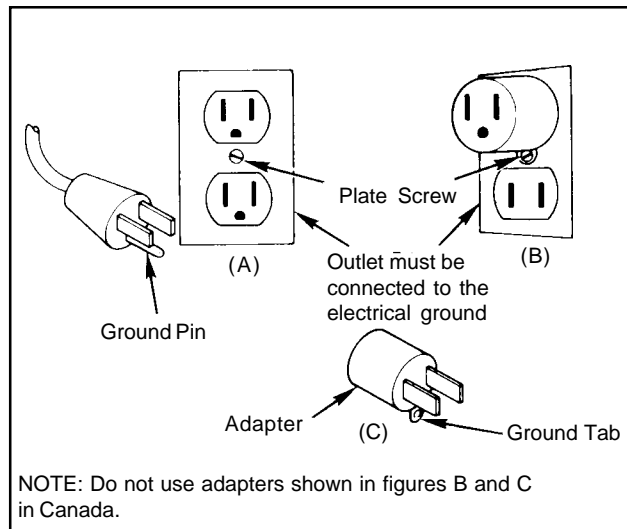

Figure 9
This machine uses a 110 to 120 volts AC 60 cycle electrical circuit. Make sure you have the correct frequency and voltage before connecting the power cord to an outlet. The machine has a plug as shown in Figure 9(A). If a receptacle connected to the electrical ground (A) is not available, use an adapter as shown in Figure 9(C). This adapter must be connected as shown in Figure 9(B) to an electrical ground in the electrical outlet. Make sure you use a plate screw and the ground tab to fasten the adapter.